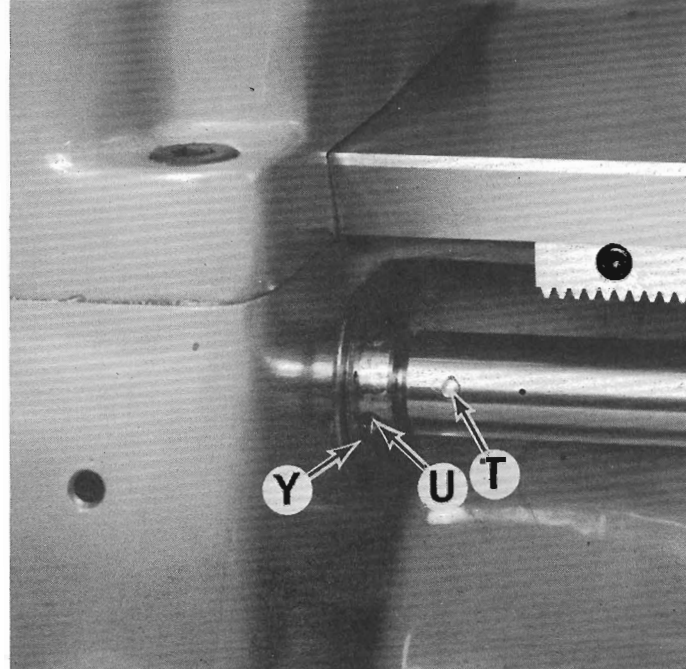

Figure 22 — Lock Nut and Taper Pin for Lead Screw
7. Remove taper pin "T", Figure 22.
9. Remove lock nut "U", Figure 22.
13. If necessary, remove nut "Y", Figure 22, to remove two bearings for cluster shaft.